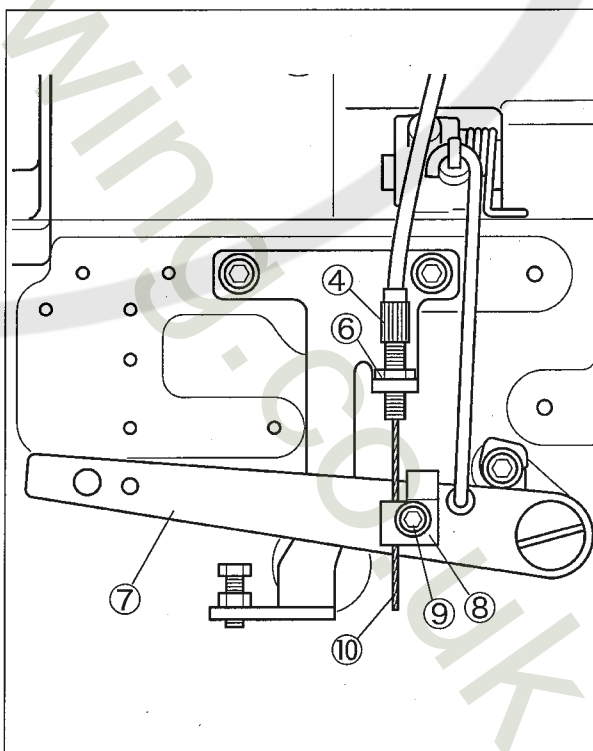

Fig. 3
3. Loosen the screw ⑨ on the wire stopper (lower) ⑧ which is on the lifter lever ⑦ side (behind the sewing machine). (Fig. 3)
- (1) Remove the wire stopper (upper) ⑪.
- (2) Make the wire pass the groove in the wire stopper block ⑬. And send the wire ⑩ until it touches the left end of wire stopper block ⑬.
- (3) Reinstall the wire stopper (upper) ⑪.
5. Put the wire on lifter lever ⑦ side (behind the sewing machine) under the wire stopper (lower) ⑧, tighten the screw ⑨ to fix the wire ⑩ securely. Make sure the wire ⑩ has not been loosened up. (Fig. 3)